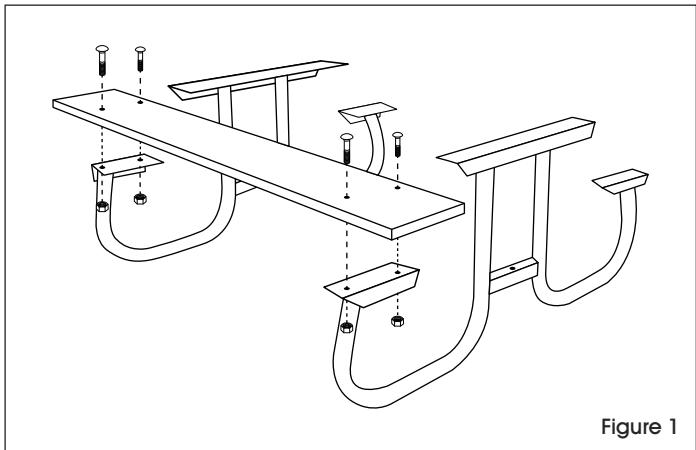

Figure 1
1. Position table frames with the support lip towards the inside of the table. Attach a seat board to the frame with the angle iron facing down using 2 1/4" carriage bolts, lock washers and hex nuts. (See Figure 1)